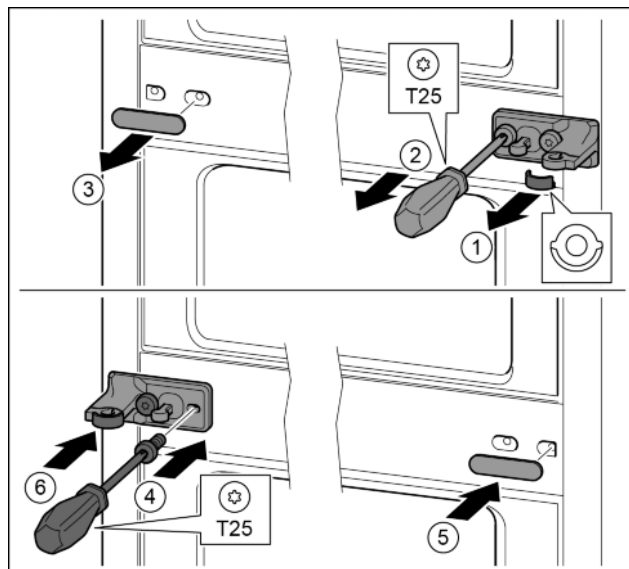

Fig. 28
- ▶ Remove the washer. Fig. 28 (1)
- ▶ Remove the screws with the T25 screwdriver. Fig. 28 (2)
- ▶ Remove the cover carefully. Fig. 28 (3)
- ▶ Screw the bearing bracket and the film rotated 180° firmly onto the other side. Fig. 28 (4)
- ▶ Attach the cover rotated 180° onto the other side. Fig. 28 (5)
- ▶ Push the washer in from the front. Fig. 28 (6)